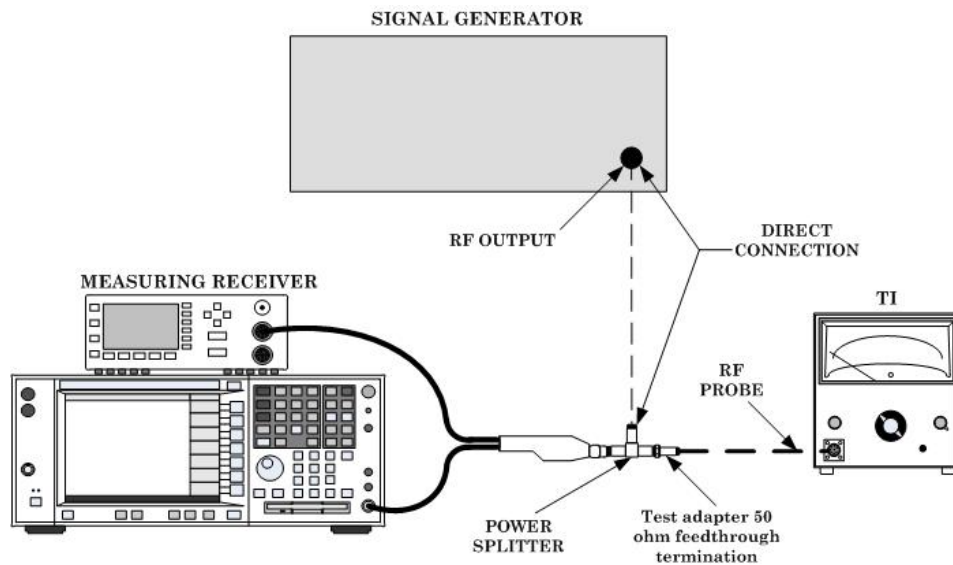

Figure 1. Frequency response - equipment setup.
- (6) Connect equipment as shown in figure 1.